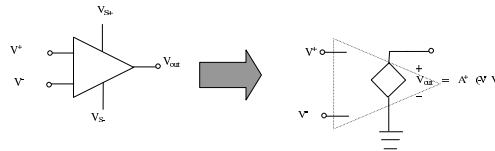

FIGURE 8. Op-Amp Equivalent Circuit
3.4. What is an op-amp feedback circuit? As mentioned elsewhere, an operational amplifier is a differential voltage amplifier circuit that has very large voltage gains (10^5 – 10^7), near infinite input resistance, and near zero output resistance. This means that we can model the op-amp as a dependent voltage source controlled by a voltage. The circuit model for the operational amplifier is shown in figure 8.
The idealized model shown in figure 8 is a good approximation for the “real-life” op-amp’s behavior. In other words, the op-amp is a special circuit that has been specially engineered to behave like its idealized circuit model. We can therefore use op-amp models in a reliable manner to predict the behavior of op-amp circuits, with high confidence that our analytical predictions will hold true in real-life. This means the op-amp is a useful building block in analog circuit design.